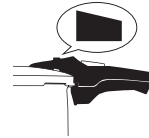

Fig. 13
2. When the pressure indicator is in the initial position and the pin is no longer visible, all the pressure has been released from the pressure cooker and you can open it (Fig 13).